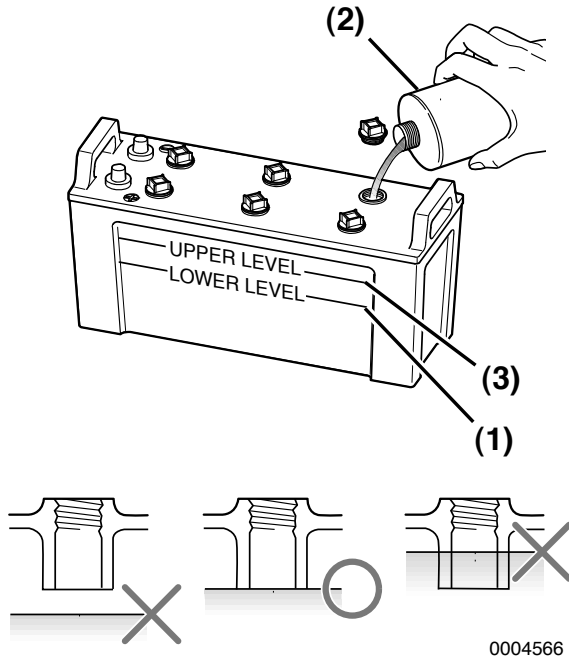

Figure 12
- If the level is lower than the minimum, fill level (**Figure 12, (1)**), fill with distilled water (**Figure 12, (2)**) (available in the grocery store) up to the upper limit (**Figure 12, (3)**) of the battery.